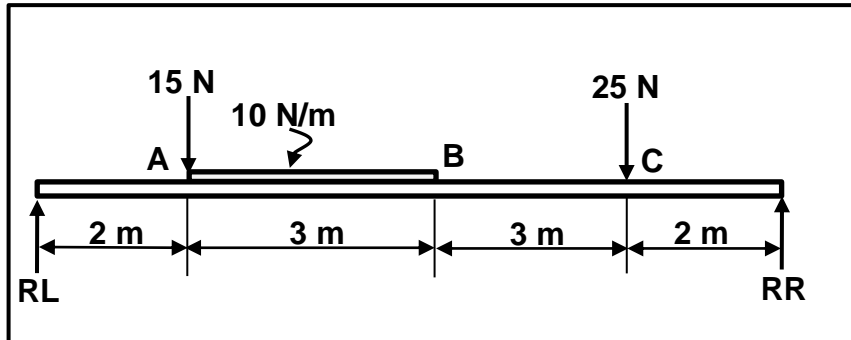

FIGURE 7.3
7.3 FIGURE 7.3 shows a beam of 10 metres long, supported by two vertical supports, **RL** and **RR**. Two vertical point loads, 15 N and 25 N, are exerted onto the beam. A uniformly distributed load of 10 N/m is exerted over a length of 3 m. Answer the questions that follow.